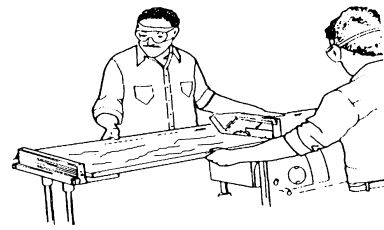

Figure C-10
- Feed the stock as you would normally. If the stock you're cutting is extremely large – such as a sheet of plywood – get some help. See Figure C-10.